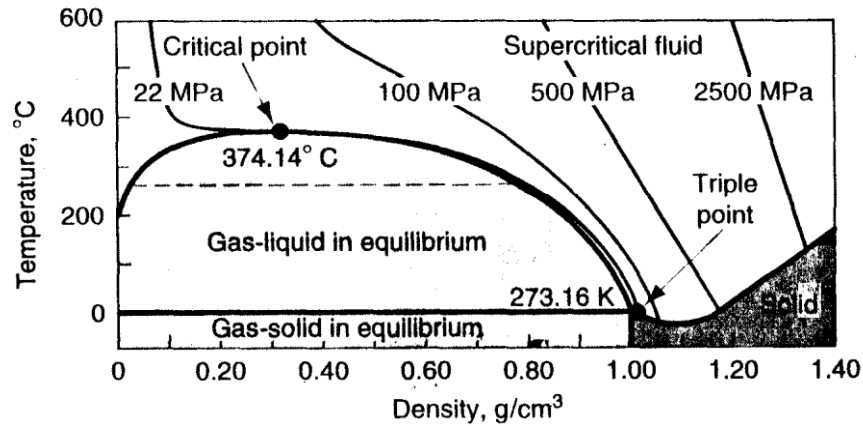

Figure 2 The regions of existence of solid, liquid, gaseous, and supercritical water. At the triple point solid, liquid, and gas are all in equilibrium.
- Refer to Figure 2 in which the states of water are illustrated. As the temperature increases, the density of the liquid and vapor approach each other until finally at 374.14 °C, the values are the same.